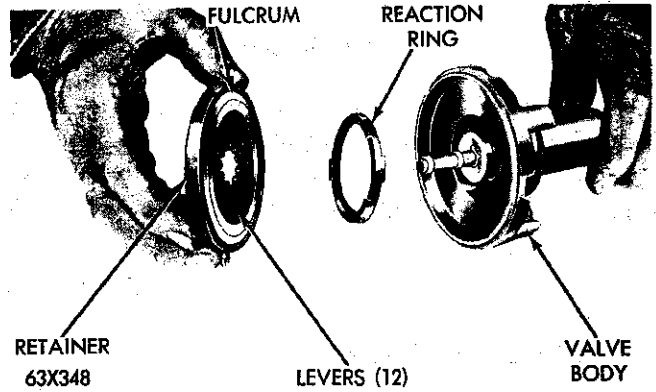
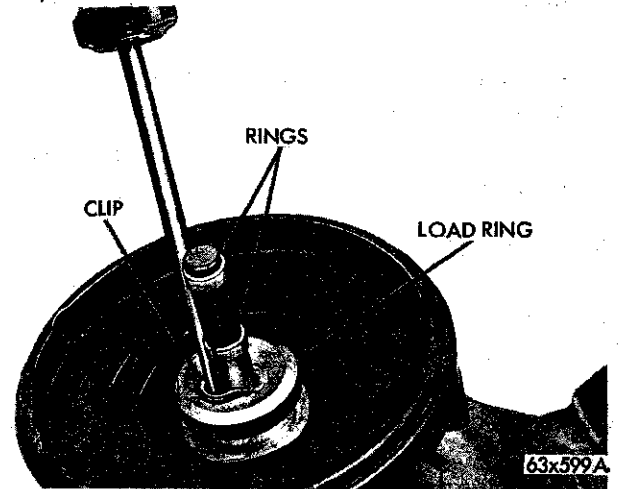
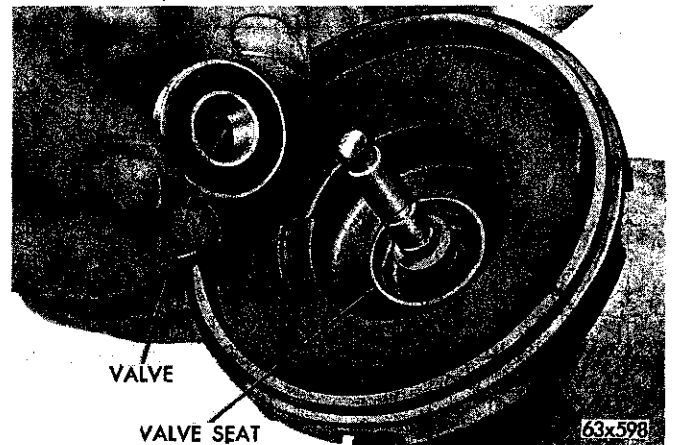

Fig. 30—Valve Body and Reaction Levers
Fig. 31—Removing Valve Retainer
Fig. 32—Removing or Installing Valve
(13) Remove the reaction lever and retainer assembly from the valve body and remove the levers from the retainer (Fig. 30).
(14) Remove the two plastic rings from the plunger shaft.
(15) Remove the retaining clip (Fig. 31) from the plunger shaft, remove the load ring and valve return spring. Remove the valve (Fig. 32).